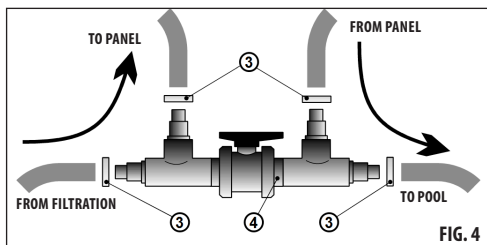

FIG. 4
- 2) Connect the manual bypass (4), if available, with the hose pins of the panel. Make the connection using hoses and hose couplers (3) - see FIG. 4.
- 5) Connect the filtration output hose with the hose pin on one side of the manual bypass (4).
- 6) Use a new hose to connect the remaining hose pin of the manual bypass (4) with the pool's return nozzle.
- 7) Check the hose connections and tighten the hose couplings (3).